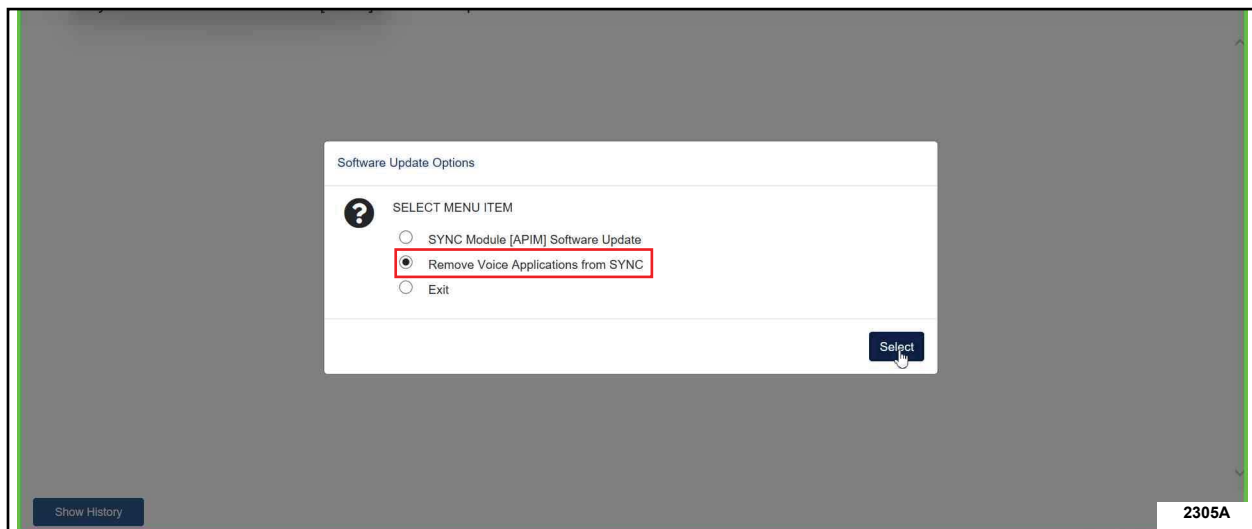

FIGURE 5
32. When prompted for Software Update Option, click "*Remove* Voice application from module", then click *Select*. See Figure 5.